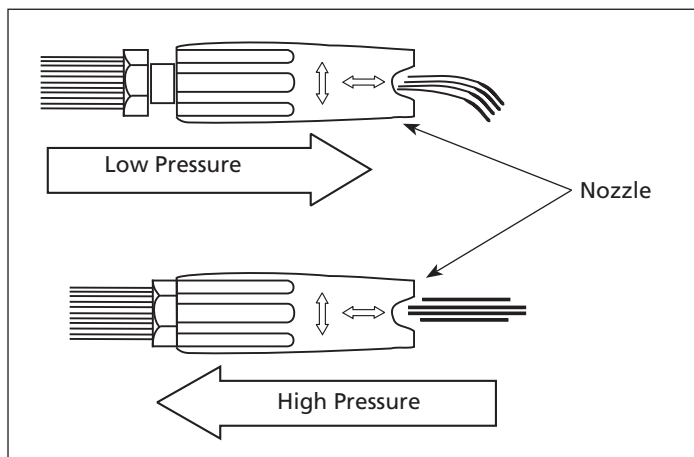

Figure 13 - Adjusting nozzle for pressure
3. Place hand around the spraying end section of the lance (the section that turns from left to right). Pull firmly and quickly away from you. (NOTE: Do not adjust lance while spraying.) The lance will extend 1/2 inch and be in low pressure (see Figure 13). Soap can only be drawn in low pressure.